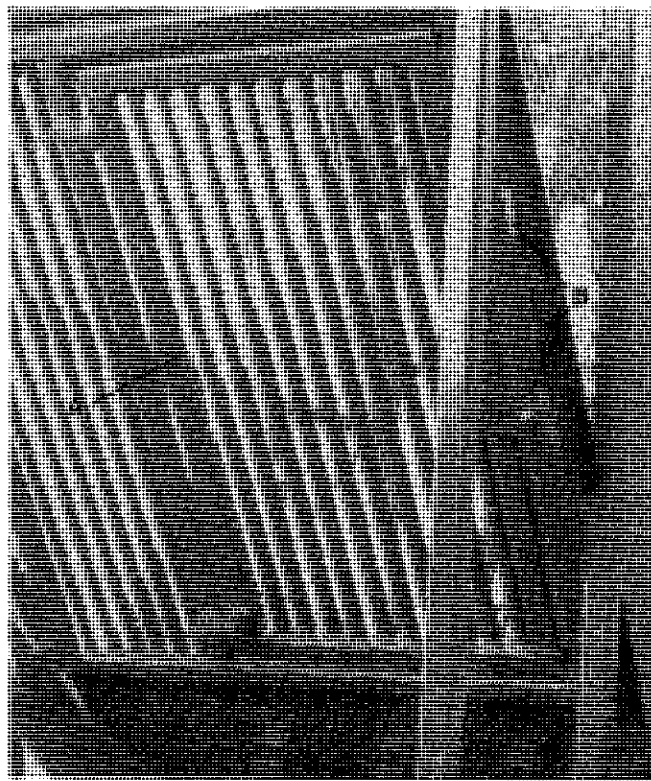

FIGURE 28 - ACCESS DOOR IN HOLDING TANK
An access door (A) is provided in the holding tank (see figure 28). This door is opened by loosening latches (B) and moving them outward to release door.